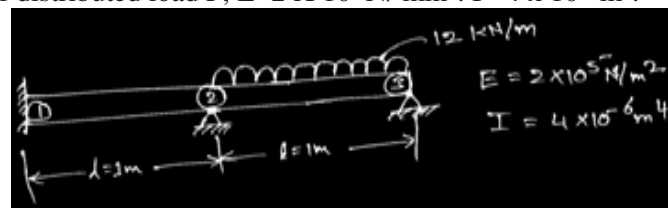

Fig: 3
- For the beam shown in Fig: 3. Find slopes at nodes and vertical deflection at the midpoint of distributed load P, $E = 2 \times 10^5 \text{ N/mm}^2$, $I = 4 \times 10^6 \text{ m}^4$.